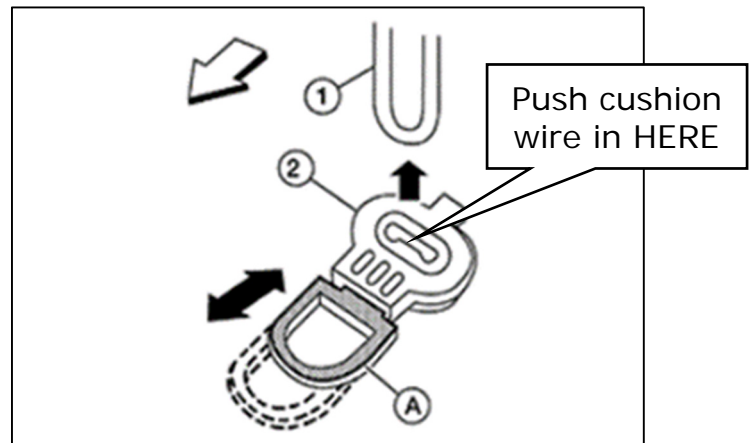

Figure 16
- d. Line up the seat cushion wire with the seat cushion lock, and then push the seat cushion down to lock into place for both sides (see Figure 16).